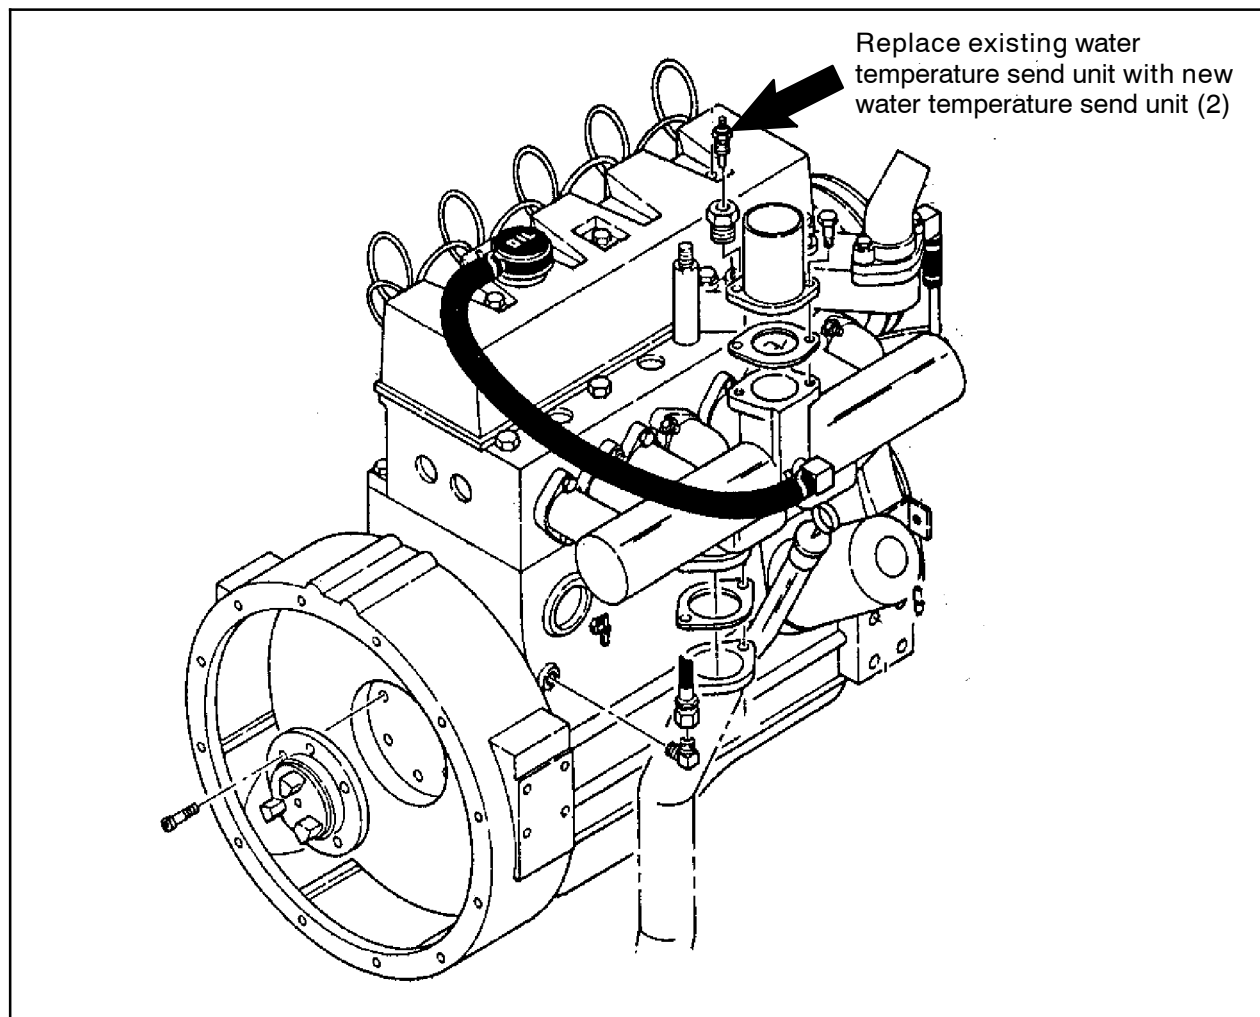
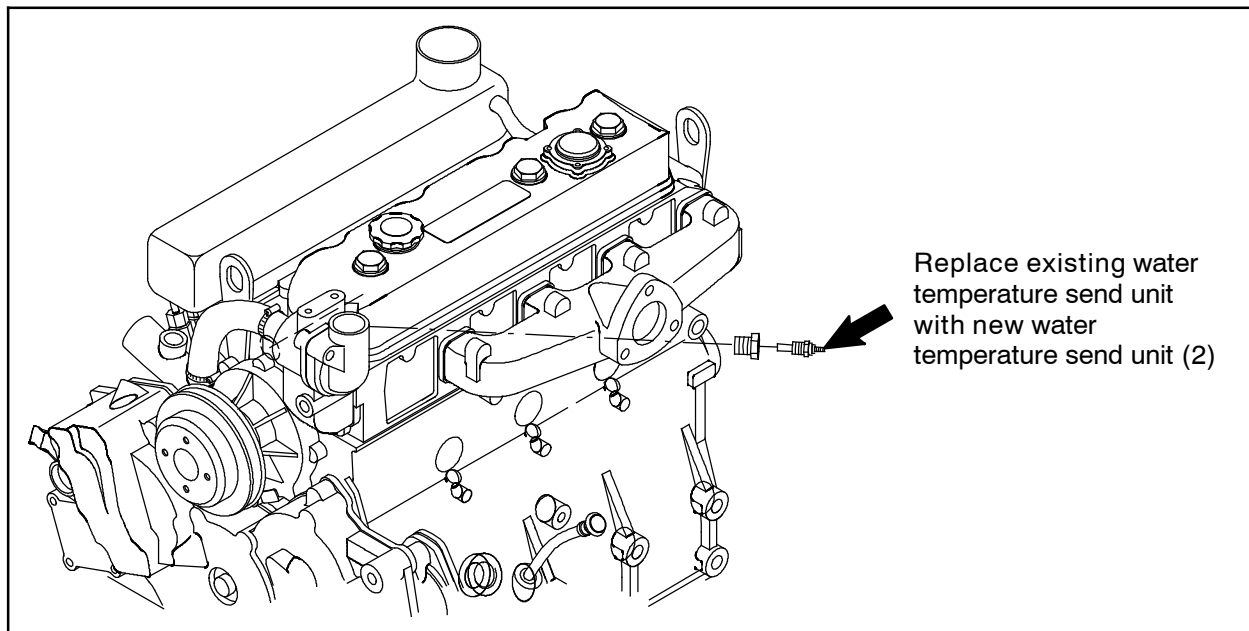
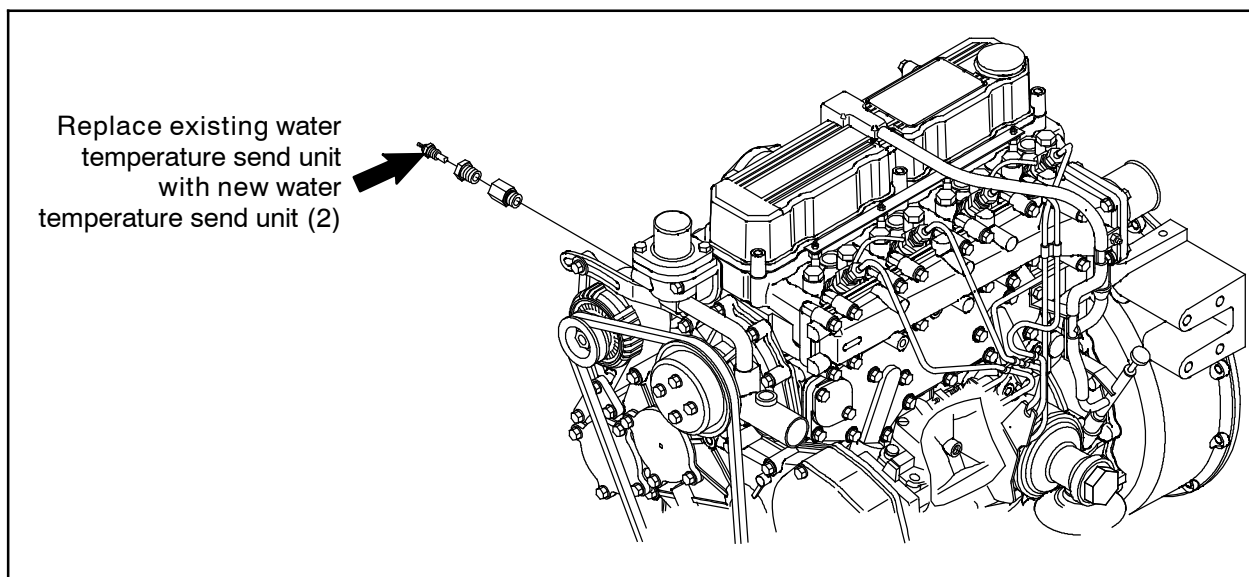

FIG. 2
FIG. 3
FIG. 4
8. Disconnect the main wire harness from the water temperature send unit. (Fig. 2 / Fig. 3 / Fig. 4)
9. Remove the temperature sender from the engine. Discard the water temperature send unit. (Fig. 2 / Fig. 3 / Fig. 4)
10. Install the new water temperature send unit (2) into the engine. (Fig. 2 / Fig. 3 / Fig. 4)
11. Connect the main wire harness to the water temperature send unit (2). (Fig. 2 / Fig. 3 / Fig. 4)